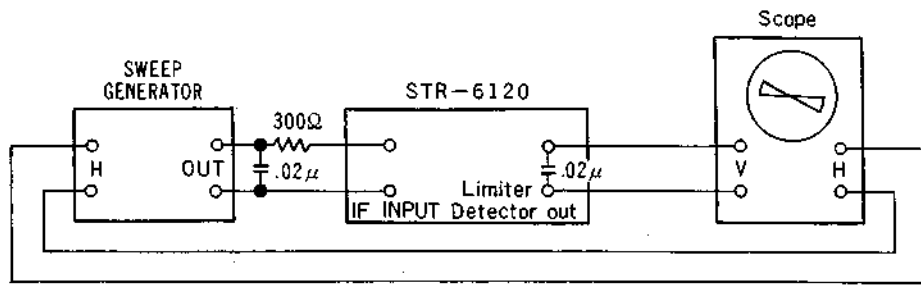

Fig. 3-2-1 FM Discriminator Adjustment Test Set-up
- (1) With the equipment connected as shown in Fig. 3-2-1, set the 10.7-MHz Sweep Generator and receiver controls as follows: